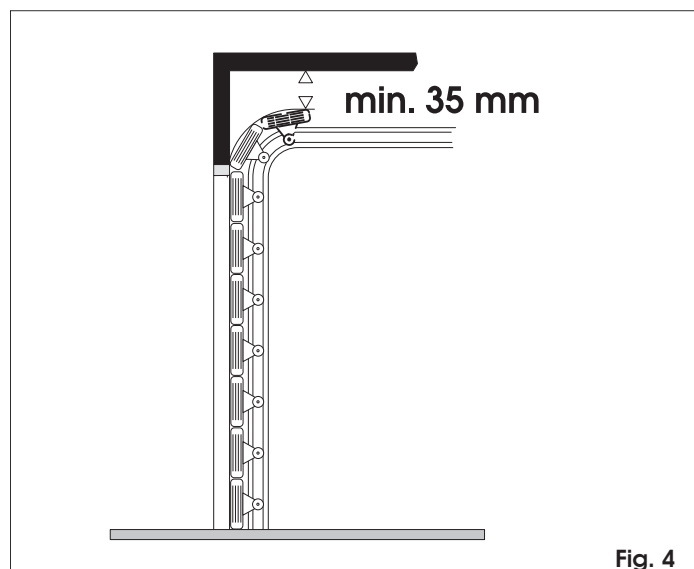

Fig. 4
Maximum dimensions from ceiling (mm)	35 (Fig. 4)
- Make sure there is a clearance of at least 35 mm between the ceiling and the highest sliding point of the door (Fig.4).
- 2) On the architrave, mark a horizontal line corresponding to the maximum height reached by the door during movement (see Fig. 4).